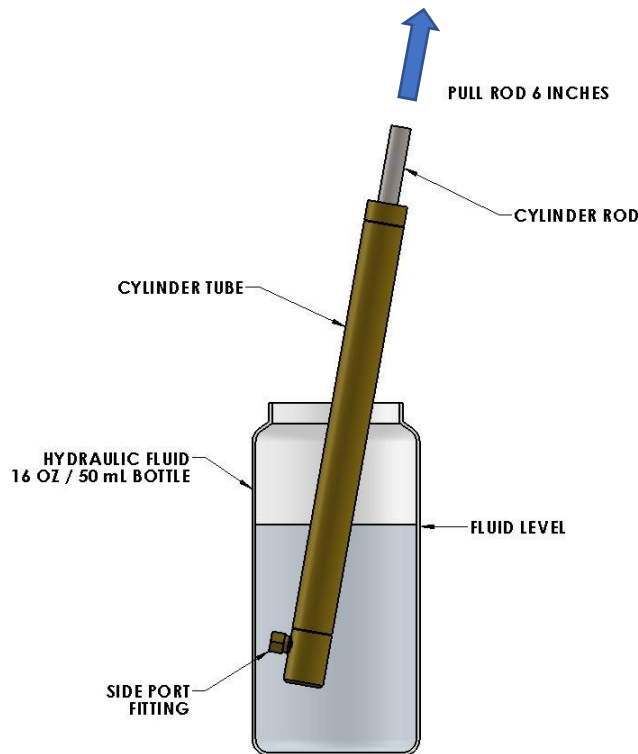

Figure 4: Filling a Side-Ported Cylinder
2. Immerse cylinder fitting end into 16oz/500mL bottle of Levitech hydraulic fluid (Figure 4). Draw fluid into cylinder by pulling cylinder rod 6 inches from cylinder tube, as if drawing fluid into a syringe.